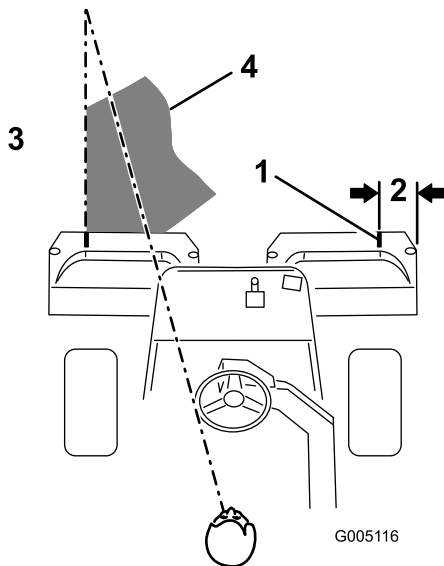

Figure 28
**Note:** To assist in maintaining a straight line across the green and keeping the machine an equal distance from the edge of the previous cut, imagine a sight line approximately 1.8 to 3 m (6 to 10 ft) ahead of the machine to the edge of the uncut portion of the green (Figure 28). Include the outer edge of the steering wheel as part of the sight line; i.e., keep the steering wheel edge aligned with a point that is always kept the same distance away from the front of the machine.